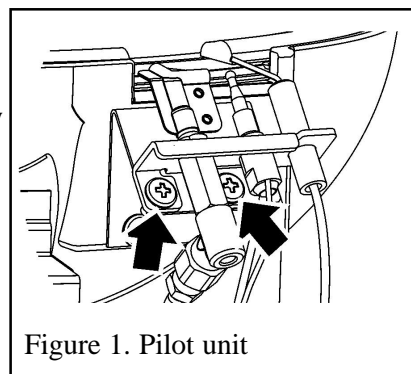

Figure 1. Pilot unit
6. Remove the two screws securing the pilot unit (See figure 1). Place the pilot unit clear of the work area.